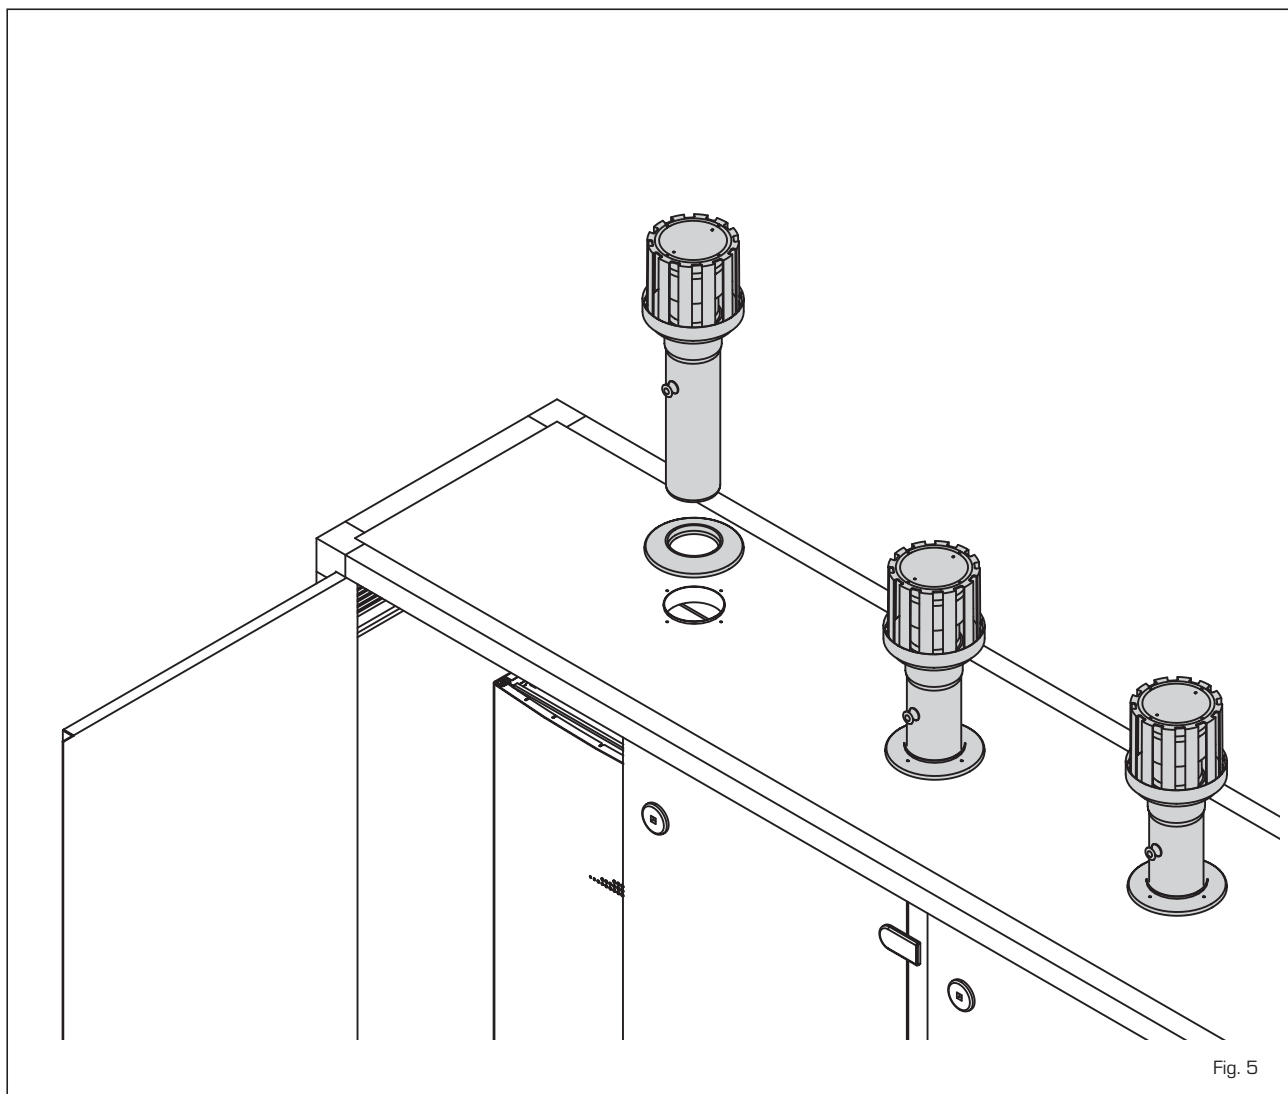

Fig. 5
2.6 EXHAUST FOR OUTDOOR INSTALLATION (fig. 5)
The exhaust terminal for single module code 8089530 is required for this type of installation. For separately supplied accessory assembly see fig. 5.